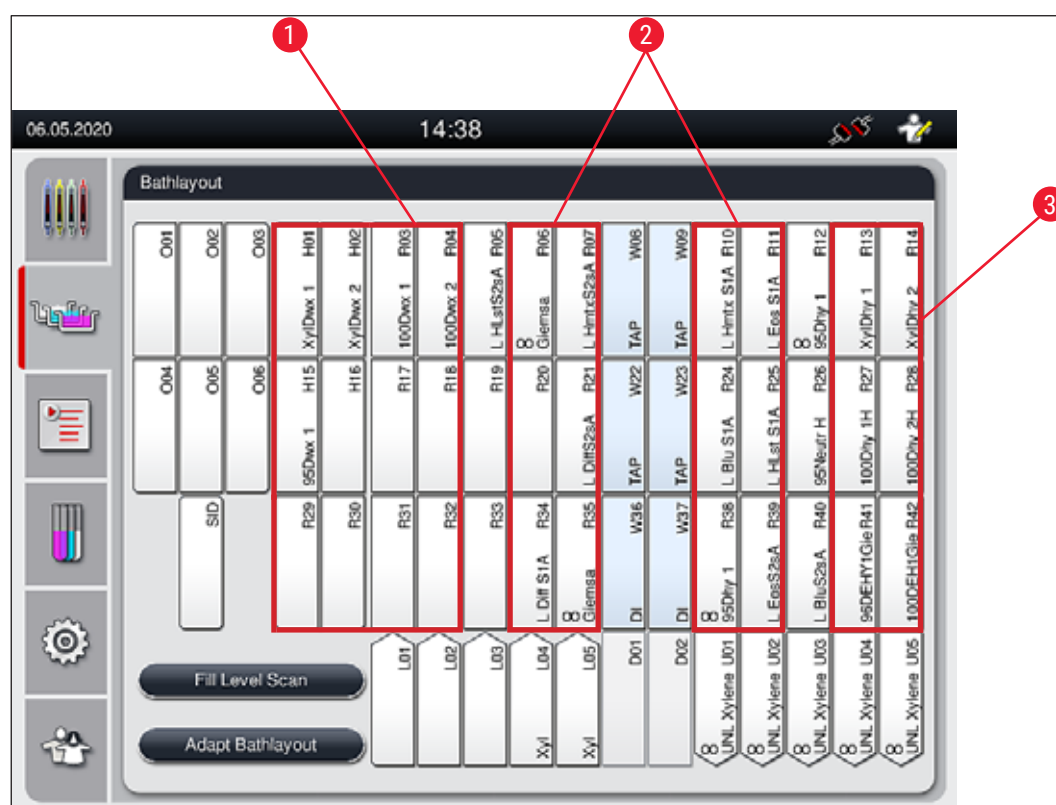

Fig. 40
- Staining reagents that require a subsequent rinsing water step are positioned adjacent to the rinsing water vessels (→ "Fig. 40").